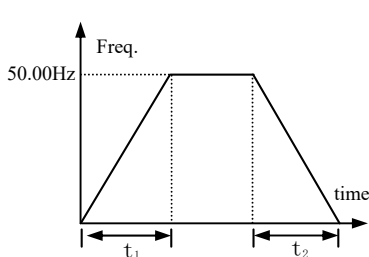

Fig. 7-1 Line acc/dece
**0: Line acceleration and deceleration mode.** Output frequency raises or declines as the constant slope, as Fig. 7-1.